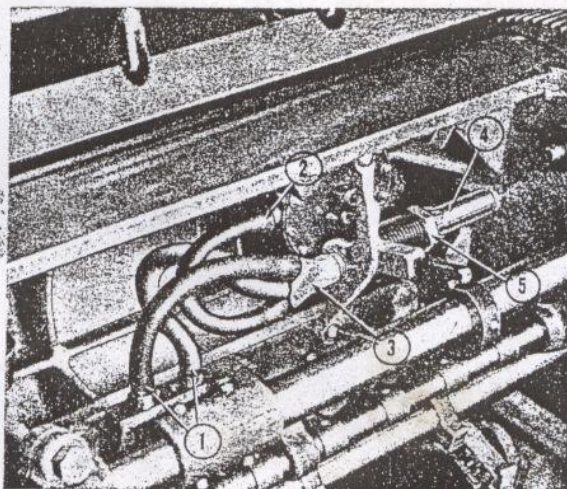

Figure 38—Hose Connections In Cylinder
(1) and the hose connected to cylinder trip diaphragm air nipple (2). (See figure 38.) Disconnect and remove three way hose fitting from cylinder trip diaphragm air tube, (3) figure 38.
(6) Loosen gripper bar clamp screws and remove gripper bar.
(7) Connect special blast hose to cylinder air tube at right end of cylinder. Turn and lock cylinder back in operating position and then close cylinder end guard. Start press motor, applying blast, and allow to run until cylinder trip diaphragm air tube, (4) figure 38, is clean.
(8) Connect special blast hose to three way hose fitting, previously removed, and blow out fitting and hoses connected to it.
(9) Apply blast to two gripper bar suction holes in cylinder.